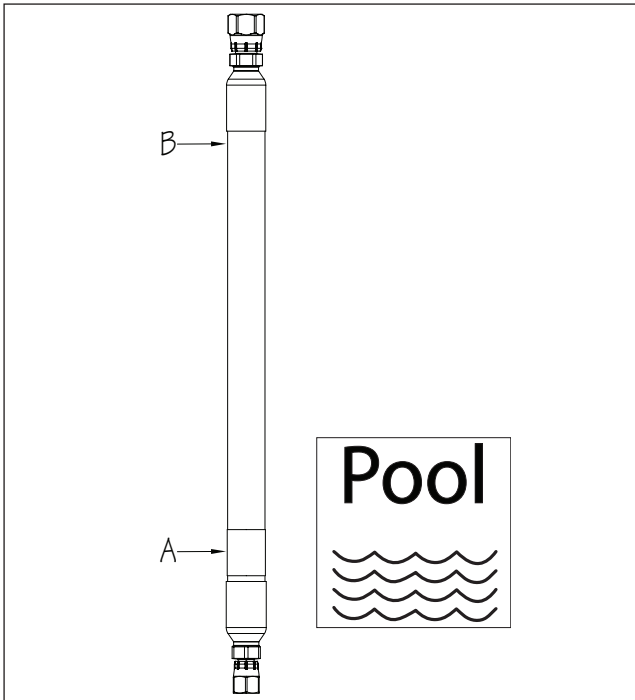

Fig. 6
Each Hydraulic Run Hose has a white label (A) that reads "Pool" on the end that attaches to the Fastlane® Swim Current Unit in the pool (Fig. 6).